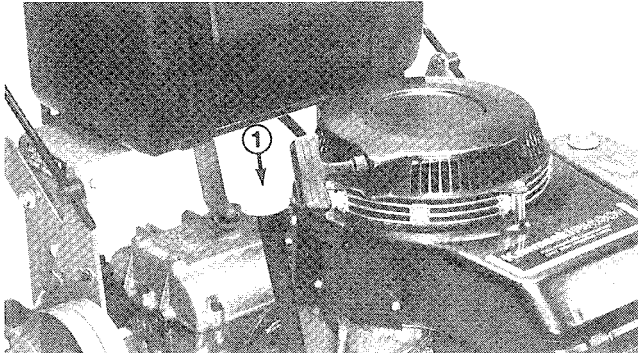

Figure 10
3. Remove dipstick (Fig. 10).
5. Wipe end of dipstick with clean rag and insert it into filler neck. Then remove the dipstick and check level of oil by reading the dipstick (Fig. 10). If level of oil is low, add only enough oil to raise level to FULL mark on dipstick. **DO NOT ADD OIL SO LEVEL RISES ABOVE FULL MARK BECAUSE ENGINE COULD BE DAMAGED WHEN IT IS STARTED.**